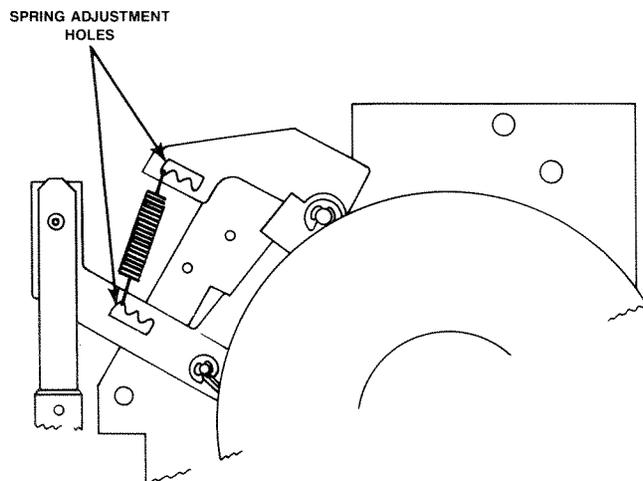

Figure 6-8-1. Reel Motor Brake Assembly Spring Adjustment
- STEP 5** To adjust brake torque, move spring towards end of bracket (away from motor) to increase brake torque. To reduce brake torque, move in opposite direction. Refer to Figure 6-8-1.